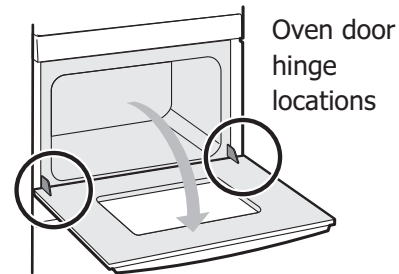

Figure 3: Door hinge location
3. Fully open the oven door, horizontal with floor (Figure 3).